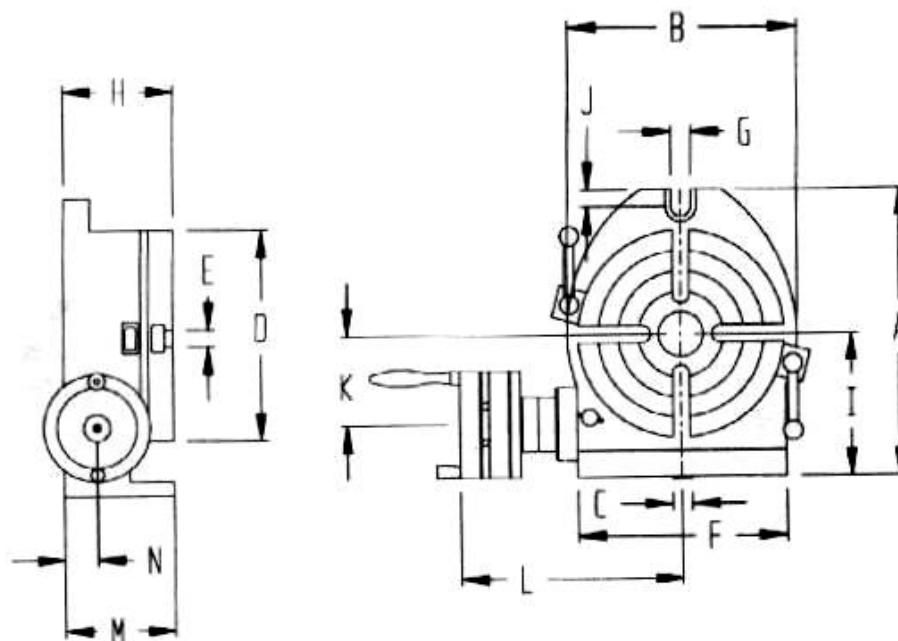

Figure 1 -
Dimensions Refer to Figure 1.
5. The center sleeve has been ground to a Morse Taper. Centers with a Morse Taper shank can be mounted to the rotary table for precision centering and measuring operations. (see dimensions in Fig. 1 for MT of ea. table.)